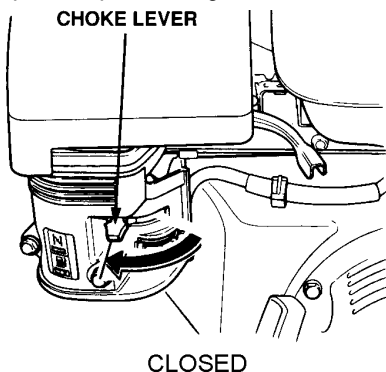

Figure 14. Choke Lever (Closed)
- If the engine has started, slowly return the choke lever (Figure 14) to the **CLOSED** position. If the engine has not started repeat steps 1 through 6.